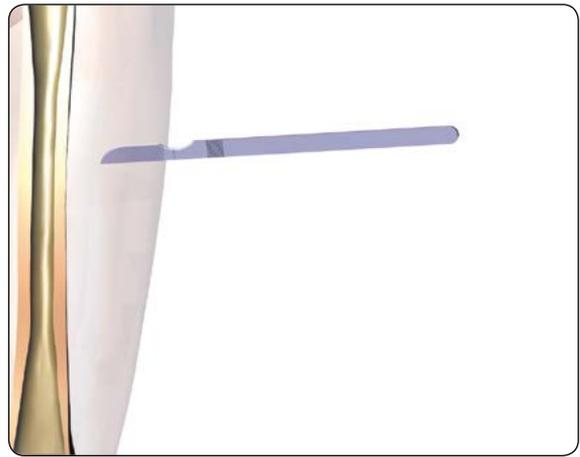

Fig. 1
- 1) Make a 15mm incision through skin and deep fascia. Use blunt dissection to reach the underlying bone (**Fig. 1**).